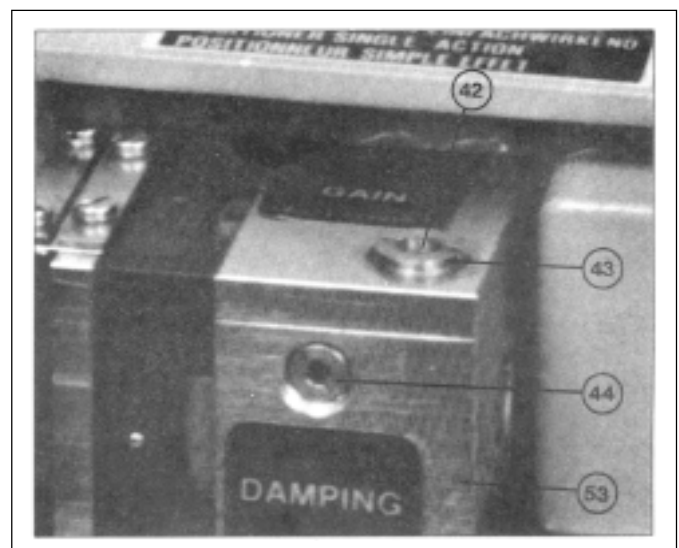
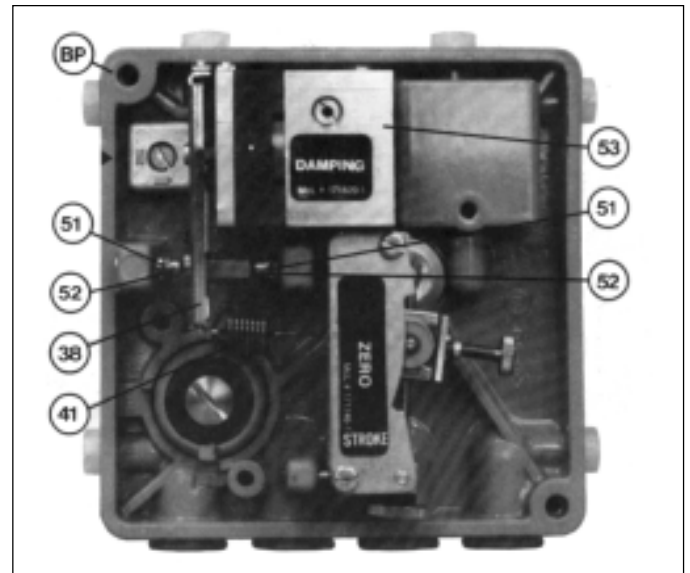

Figure 18
Figure 21
- i. Turn the stroke factor thumbscrew (40) CW; this shortens the valve stroke with respect to the "SIG" change; i.e. less air pressure required to reach valve's maximum stroke position. Once valve stem moves with each CW adjustment of the stroke factor thumbscrew (40), reverse to CCW rotation of stroke factor thumbscrew (40) and precisely adjust up to the maximum stroke position of the control valve.
5. Press the flapper lever (38) several times to the left and right until the flappers are correctly aligned.
- b. Turn the zero thumbscrew (39) either CW or CCW until the actuator begins to cause valve stem travel. Precisely adjust to the point where travel just begins.
- d. Turn the stroke factor thumbscrew (40) first CCW until observing the shortening of the valve's stroke (less than 90°). Turn the stroke factor thumbscrew (40) CW until the valve travel (90°) is precisely at its full stroke.
- e. Recheck the ZERO and STROKE settings. They should be repeatable. Under this procedure for adjustment, the ZERO and STROKE calibrations are mutually independent (i.e. non-interacting, when the feedback lever (13) and travel stop pin (20) are properly installed and positioned).
B. Setting GAIN: (See Figure 18)
2. The open loop gain varies with the supply "IAS" pressure, and the values represent linear amplification. Table 4 is a guide to the gain available for each range spring (41) utilized:
4. Determine whether GAIN should increase or decrease based on above text. To increase GAIN, rotate throttle screw (42) CW; to decrease GAIN, rotate throttle screw (42) CCW. To prevent over-adjustment, the throttle screw (42) is located within the limiting screw (43). This allows the throttle screw (42) to only be adjustable a total of approximately one revolution from maximum to minimum. Thus, GAIN should be adjusted slowly in very small increments.
C. Setting DAMPING: (See Figure 18)
- a. Press the stroke factor lever (19) against the travel stop pin (20).
- b. Set the stroke factor thumbscrew (40) to a high stroke factor (approximately 5/64" before the upper stop).
- c. Turn the zero thumbscrew (39) until the output pressure is mid-range of "SIG" span and make a note of this value.
- d. Set the stroke factor thumbscrew (40) to a low stroke factor (approximately 5/64" before the lower stop). The output pressure may not vary by more than ± 0.003 psig as compared with the setting described in c. above.
- e. In case of excessive deviations, the travel stop pin (20) should be adjusted. Whenever the travel stop pin (20) is adjusted, the settings described in b. to d. should be repeated until the deviation is less than ± 0.003 psig.
- f. Seal the travel stop pin (20) with sealing paint.
5. Return the changeover plate (15) to its original positioner if it was "U". Re-tighten the feedback (13) lever onto the main shaft (17) of the positioner (see Section III.D.8. & 9.).
B. Cleaning the Throttle Screw: (See Figure 18)
1. Unscrew CCW the limiting screw (43). If you can't pull it out by hand, unscrew CCW the throttle screw (42) and remove both by hand.
2. Pull the throttle screw (42) out of the limiting screw (43).
3. Place the throttle screw (42) in solvent (e.g. benzene) and blow through it carefully. It is best to clean in an ultrasonic solvent bath.
4. Turn the throttle screw (42) in again as far as it goes CW.
5. Turn the limiting screw (43) in as far as it goes CW; then back it out CCW about half a revolution.
6. Secure the limiting screw (43) with sealing paint.
C. Replacing the Amplifier: (See Figure 21)
1. Unhook the range spring (41) from the flapper lever (38).
2. Unscrew and remove the amplifier (53) sub-assembly; the two amplifier mounting screws are accessible from the rear of the positioner.
3. Install a new amplifier (53). Do not forget the O-rings between the amplifier and the base-plate (BP) (air baffle). Before tightening, carefully align the mounting screws, position the amplifier (53) in such a way that the flappers (52) are concentrically aligned with the nozzles (51).
4. Hook the range spring (41) onto the flapper lever (38).